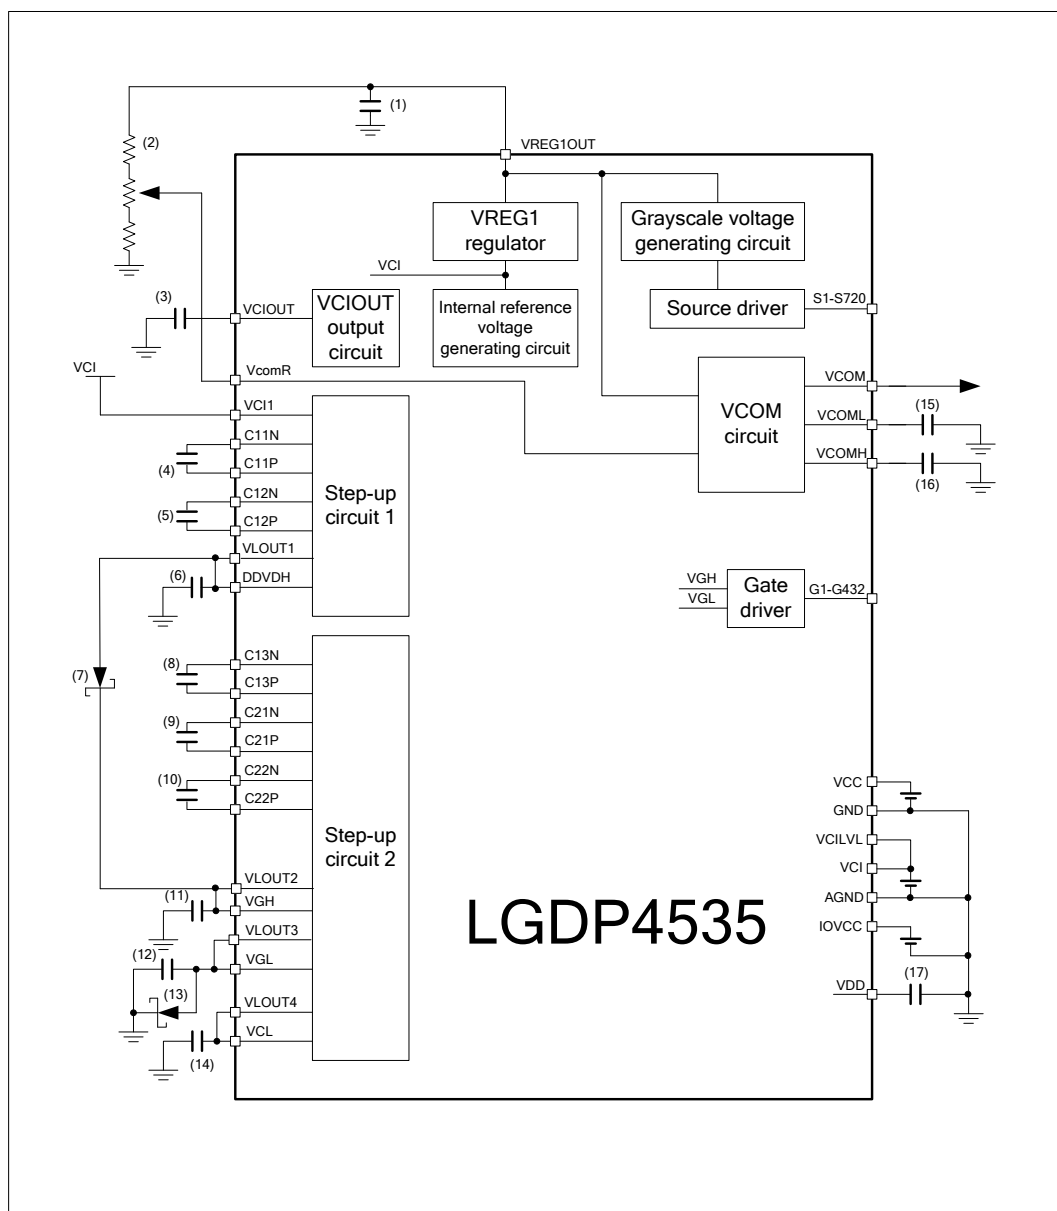

**Figure 72**
2. The numbers in the parentheses corresponds to the numbers of the elements in Figure 72, Figure 73.